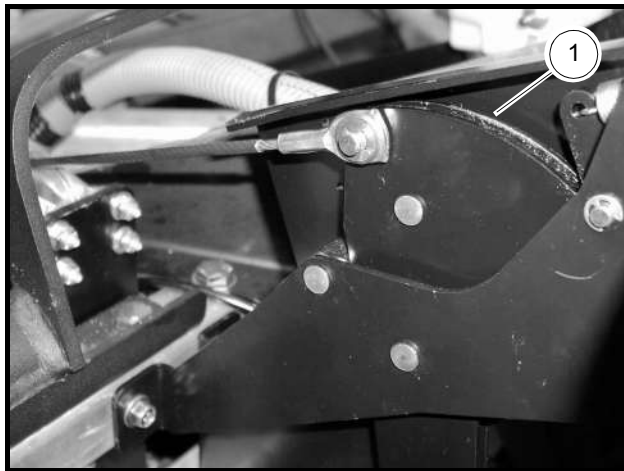

Figure 5-5 Park Brake Cable End
1. Use a small, stiff brush to remove all dirt and debris from the ratchet teeth (1) (**Figure 5-5, Page 5-4**).
2. Feed the eye end of the cable through the pedal bracket until the cable sheath ferrule is secure in the pedal bracket and the tines secure the cable (**Figure 5-5, Page 5-4**).